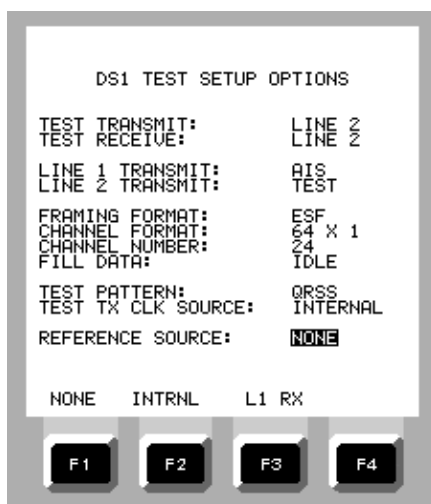

Figure 2-22. DS1 TEST SETUP OPTIONS
The DS1 MENU (Figures 2-6, 2-7, and 2-8) includes up to twenty items depending on installed options. It is the menu used to select the type of T1 test to be performed and for preparing the test set for the specific test selected. This paragraph lists the primary menu selections. Figures 2-22 through 2-42 show the initial screen displayed for each selection.
- a. DS1 SETUP OPTIONS - Used to select the send and receive test ports, framing and channel formats, test channel number, fill data, test pattern, clock source, and reference source. (Figure 2-22).